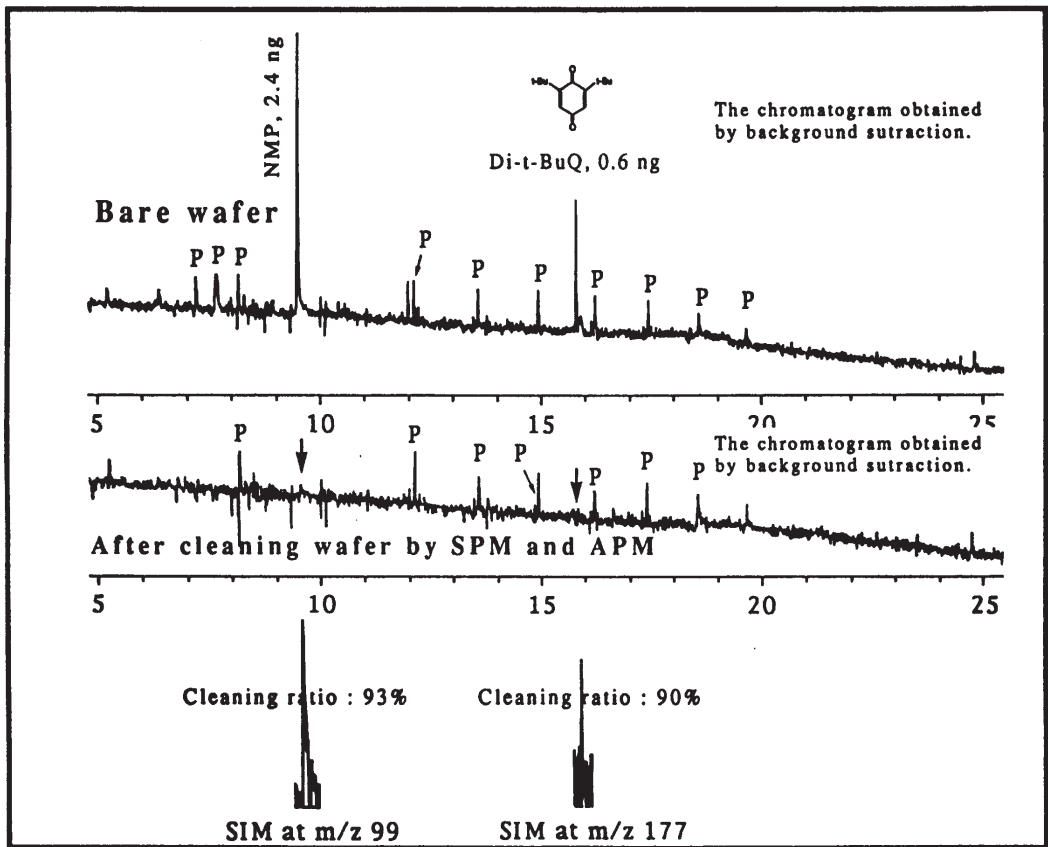

Fig. 24 Measurement of cleaning ratio of between the Bare and the CW at the position of (1) and (2) in Fig. 23
| Between the Bare and the CW :                  | (1) and (2)           | Fig. 24      |